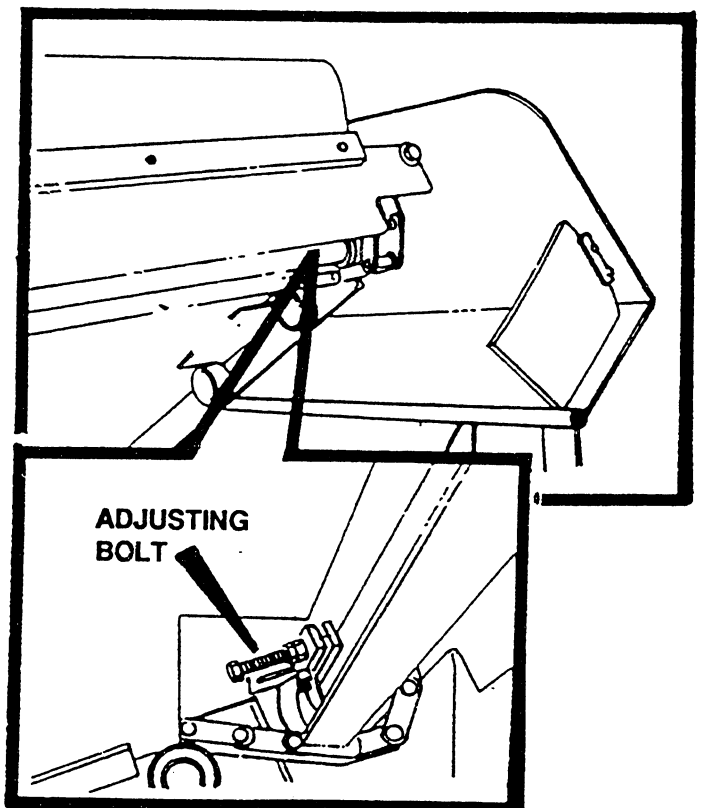

FIGURE 45
3. There is one feeder chain on each side of paver, with 2 locking bolts and 2 adjusting bolts per feeder chain. When these adjustments require servicing a red light on the instrument panel will flash. Follow the procedures below in making this adjustment. See figure 45.